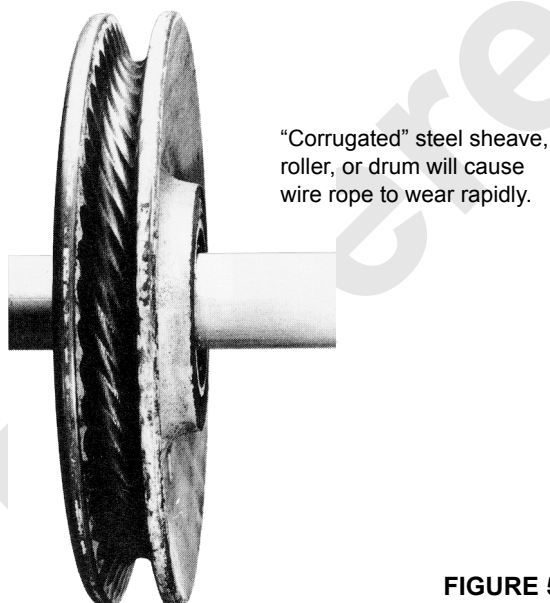

FIGURE 5-13
6. Remachine or replace steel sheaves, drums, or rollers that have been corrugated by the wire rope's print as shown in Figure 5-13.